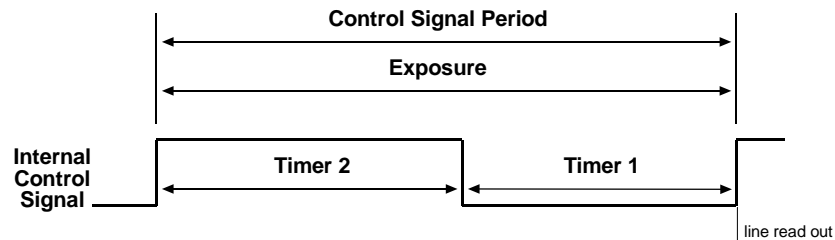

Figure 3-5: Free-run, Edge-controlled Mode
- In **free-run, edge-controlled mode**, the pixels are exposed and charge is accumulated over the full period of the internal control signal (rising edge to rising edge). The falling edge of the control signal is irrelevant. The line is read out and transferred on the rising edge of the internal control signal (see Figure 3-5).